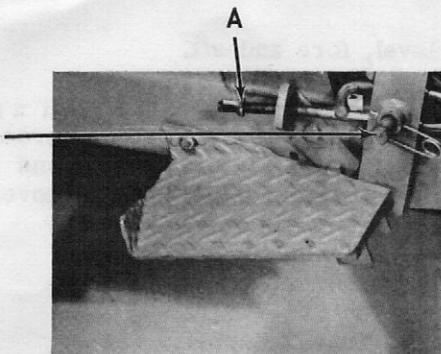

Figure 4.
7. The tractor mechanical or hydraulic lift lever is used to raise the mower into transport and to lower it to desired cutting height. The wing nut, Reference "A", Figure 4 is not used to adjust the cutting height and should be set according to Paragraph 2 under "Adjustments and Maintenance". Cutting height adjustments are covered in Paragraph 4 in the "Adjustment and Maintenance Section."
CAUTION If the tractor is equipped with Hydraulic Lift, make certain the "down pressure" pin is in the outer (float) position as shown in Figure 4 to allow the deck to glide over high spots without digging in and causing possible damage to the mower or turf.
2. The wing nut, Reference "A", Figure 4, is used as a limit stop for the mower suspension. With the mower resting on the floor at normal operating height, push downward on the implement lift arms until all slack is taken out of the linkages. Adjust the wing nut to the point where about 1/2" of space exists between the